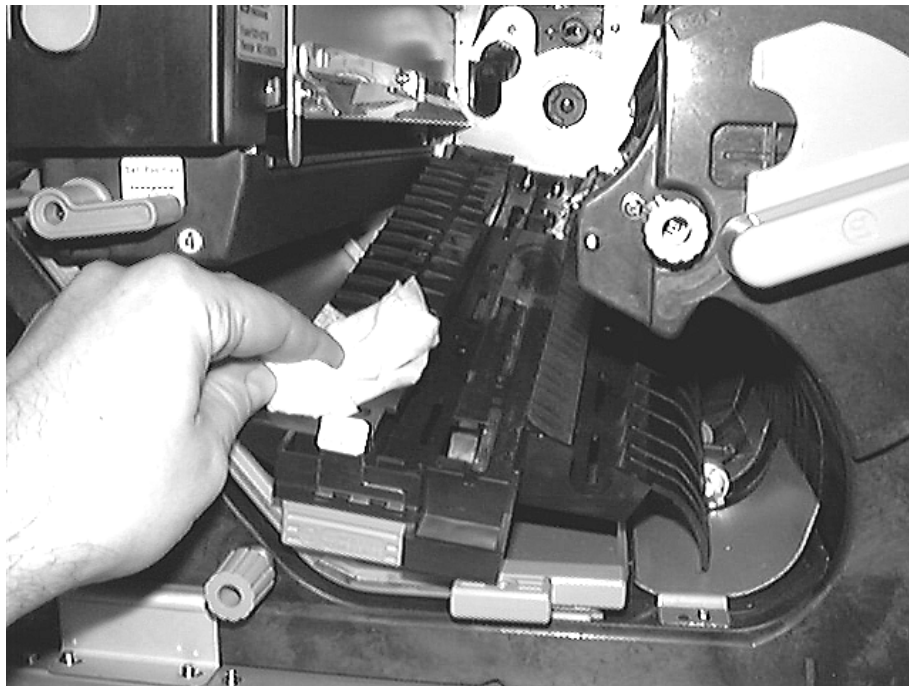

Figure 5-9 Cleaning Transfer Assembly Guide
2. Use the supplied cleaning cloths or vacuum cleaner to wipe up any toner or dust off the outside of the transfer assembly guide. Clean all the way to the back of this guide. See Figure 5-9.